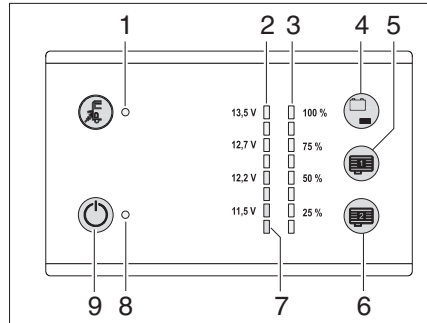

Fig. 91 Panel LT 101 / LT 102
The tank fill level of the water tank can be called up by using the sensor touchpad (Fig. 91,4).
- Touch the sensor touchpad (Fig. 91,4): The fill level of the water tank is indicated in four steps with the LEDs (Fig. 91,3) (25% to 100%).
The red warning LED (Fig. 91,7) flashes as soon as the voltage of the living area battery only still amounts to 11 V (measured under operation) and there is a risk of a total discharge.
The charging condition of the living area battery can be called up by using the sensor touchpad (Fig. 91,4).
Displays: ■ Touch the sensor touchpad (Fig. 91,4): The charging condition of the living area battery is displayed.
The 12 V main switch (Fig. 91,9) switches the panel and the 12 V power supply of the living area on and off.
Switching on: ■ Touch the sensor touchpad (Fig. 91,9): The 12 V living area power supply is switched on. The indicator lamp (Fig. 91,8) lights up green.
Switching off: ■ Touch the sensor touchpad (Fig. 91,9) again: The 12 V living area power supply is switched off. The 12 V indicator lamp (Fig. 91,8) goes off.
- ▷ If the warning LED total discharge (Fig. 91,9) flashes, the power supply cannot be switched on because the battery voltage is too low.